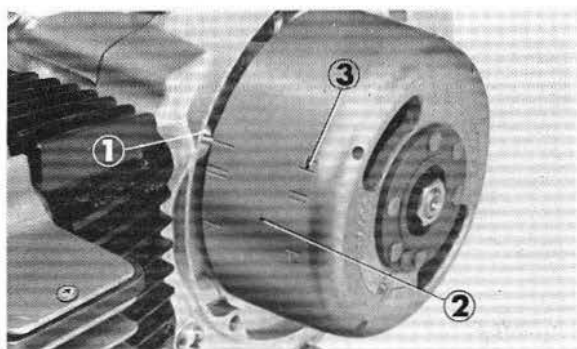

Fig. 2-21 ① Left crankcase index mark
4. Align the flywheel top-dead-center mark "T" to the left crankcase index timing mark. (Fig. 2-21)